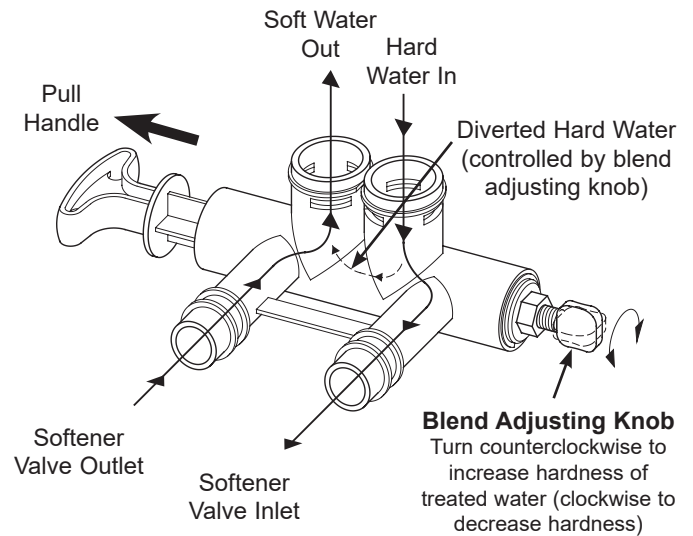

FIG. 104
The bypass blending valve works as a typical push-pull bypass valve, but has the added ability to finely adjust hardness of the treated water leaving the water softener. If slightly harder water is desired than is normally output by the water softener, this bypass blending valve can divert a small stream of hard water before it enters the water softener and blend it with the exiting softened water. The amount of water diverted is controlled by turning a blend adjusting knob on the end cap of the valve stem (See Figure 104).
1. When the bypass valve is in service position (normal softener operation), with handle pulled all the way out (See Figure 104), **increase hardness** of treated water by turning the blend adjusting knob **counterclockwise** up to 6 turns from the fully closed position. While adjusting this knob, hold the bypass valve handle to prevent the stem from rotating.